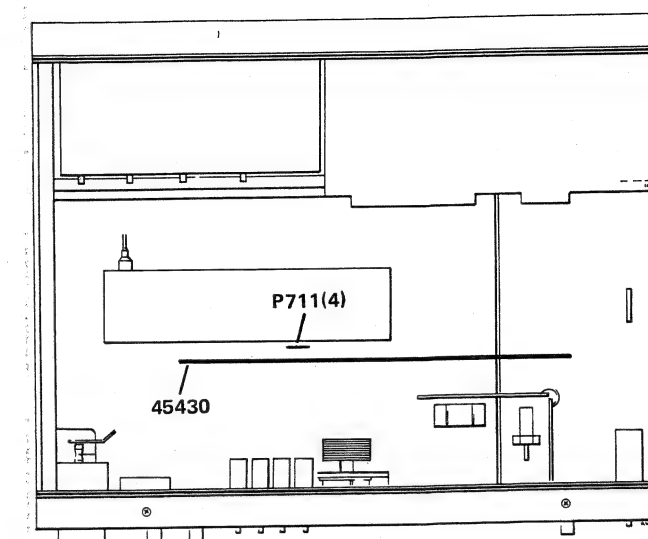

Figure 21 Test points
- Pull out interconnector board No. 45430 (see figure 21).
- Connect a d.c. millivoltmeter (range 100 mV) to P711, pin 4 (strap next to R786 on the main board, see figure 21).
- Put back interconnection board No. 45430 (see figure 21).